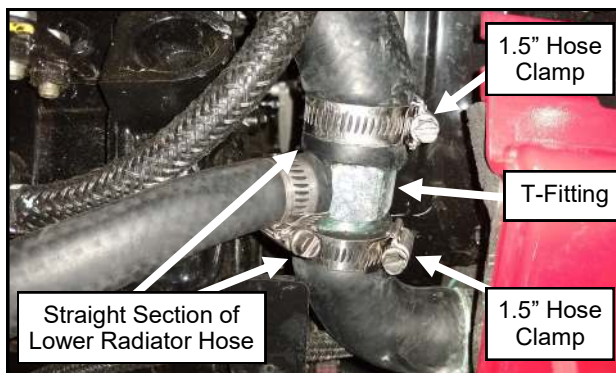

Fig. 18.1 (Lower Radiator Hose)
**18.1** Place a clean coolant drain pan under the lower radiator hose, cut the hose in the middle of the straight section as shown in Figure 18.1, and let the coolant drain into the pan.
**18.3** Place the two 1.5" hose clamps on either side of the cut lower radiator hose and install the T-Fitting provided. See Figure 18.1.
- 18.5** Cut and connect a leg of 5/8" hose to the previously installed T-fitting. Make sure the heater hose is not too tight or kinked and secure in place away from the throttle linkage with the supplied ties. See Figure 18.1 on the previous page.